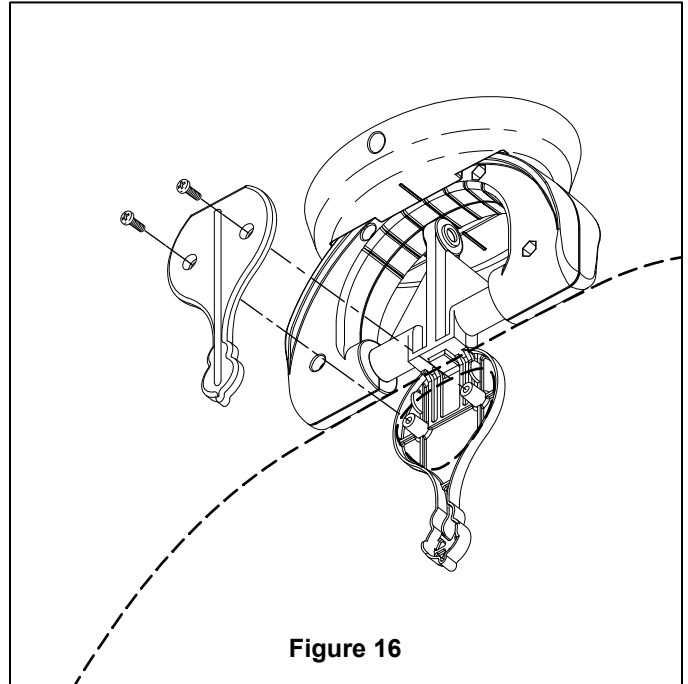

Figure 16
5. Tighten both screws to secure the blade. **Figure 16**